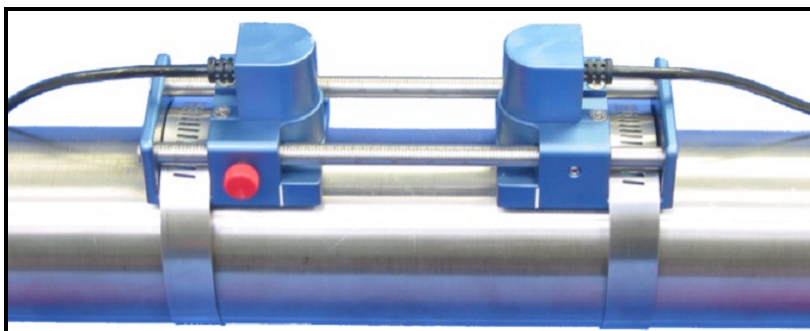

Figure 10: A Typical Transducer Installation
2. Put the transducer fixture at the desired location on the pipe. Secure it with the supplied stainless steel clamps. *Figure 10* below illustrates a typical installation.